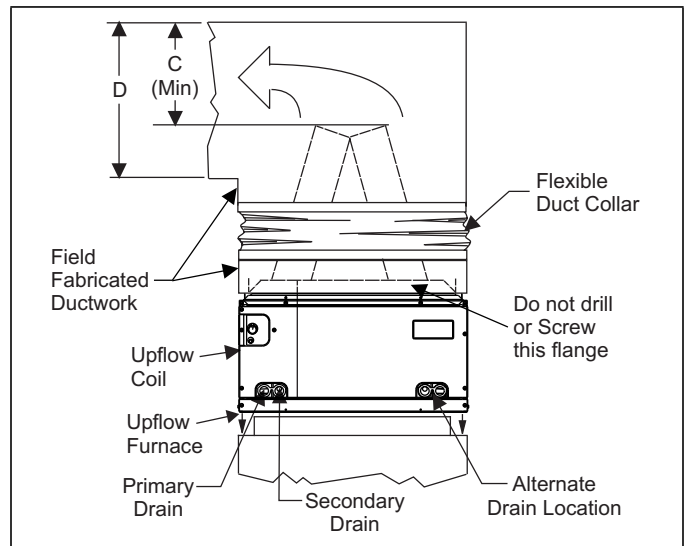

FIGURE 11: PC Series Upflow Coil Installation
1. Position the coil casing over the furnace opening as shown in Figure 11.
*Do not drill any holes or drive any screws into the front duct flange on the coil in order to prevent damaging coil tubing. See Figure 11.*
Dimension "C" should be at least 2/3 of dimension "D". See Figure 11.